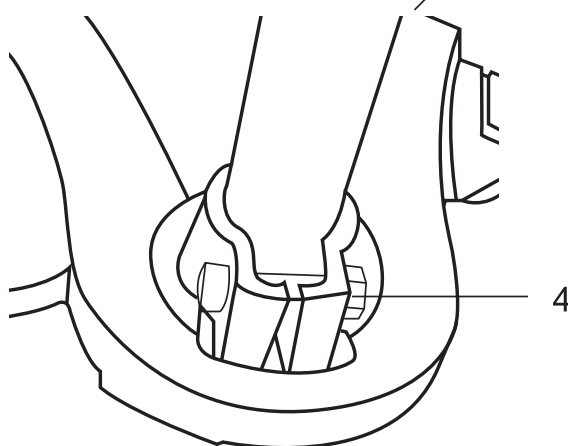

Fig. 5a
2. Secure the guard with the bolt and nut (4) (Fig. 5a).